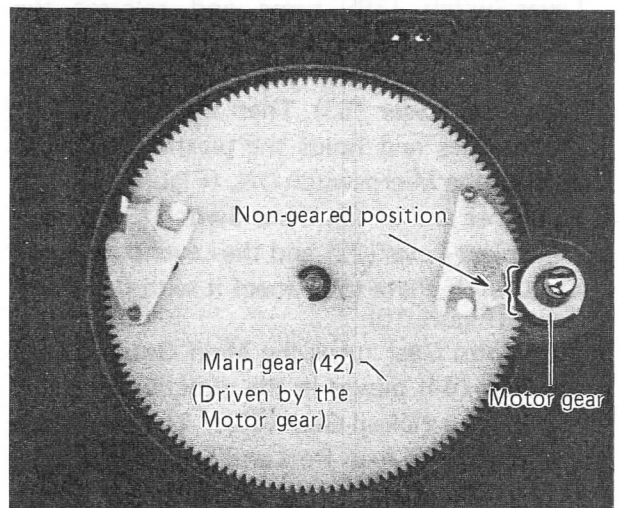

Figure 13
- (7) At the most extended position of the Gear (44), the non-gearred position of the Main Gear meets the Motor Gear. The Main Gear (42) stops turning and only the motor (turntable) keeps turning. (Figure 13)